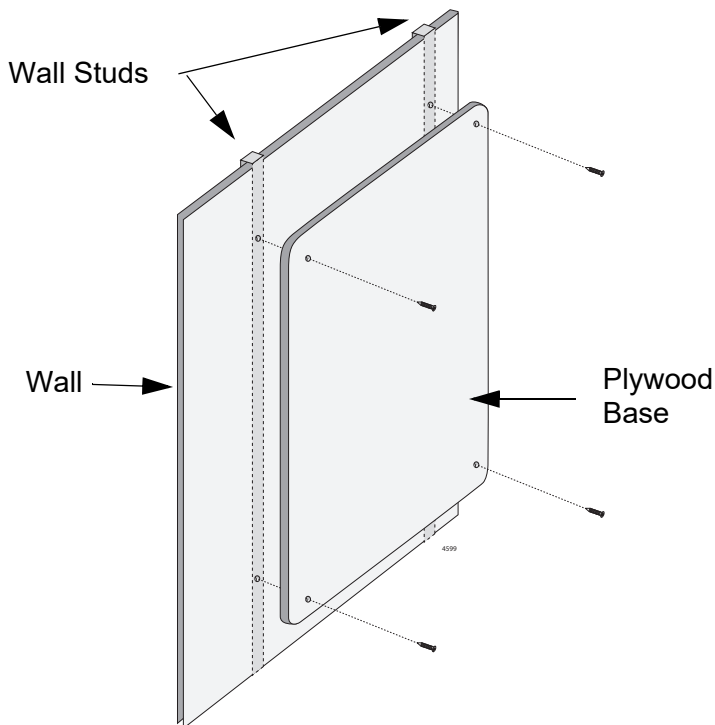

Figure 57. Installing the Switch on the Plywood Base
- ❑ The selected wall location for the base must provide sufficient space from other devices or walls so that you can access the front and back panels, and for adequate air flow for ventilation. Refer to Figure 57.